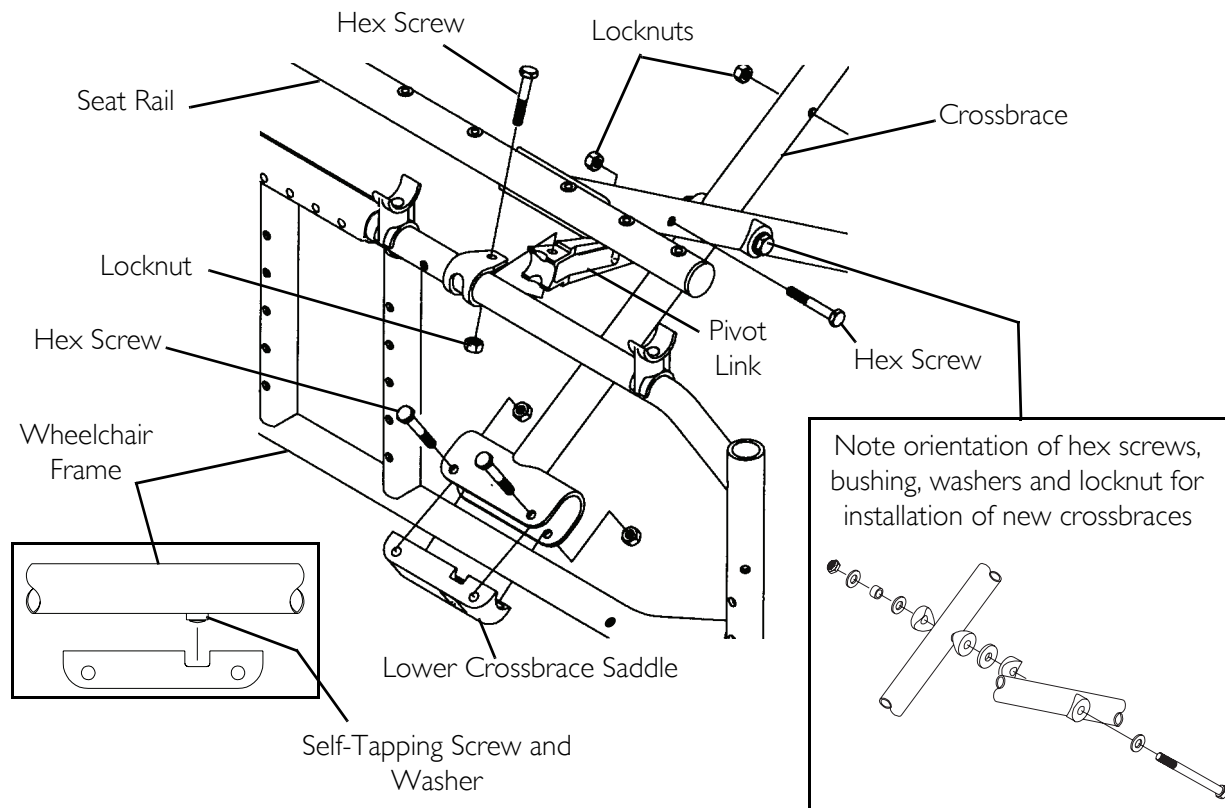

FIGURE 8.4 Changing Seat Width - Standard Folding Frames
NOTE: For this procedure, refer to FIGURE 8.4 on page 81.
- NOTE: Position the crossbrace saddle on wheelchair frame using the self tapping screw and washer on the underside of wheelchair frame as reference (FIGURE 8.4).*